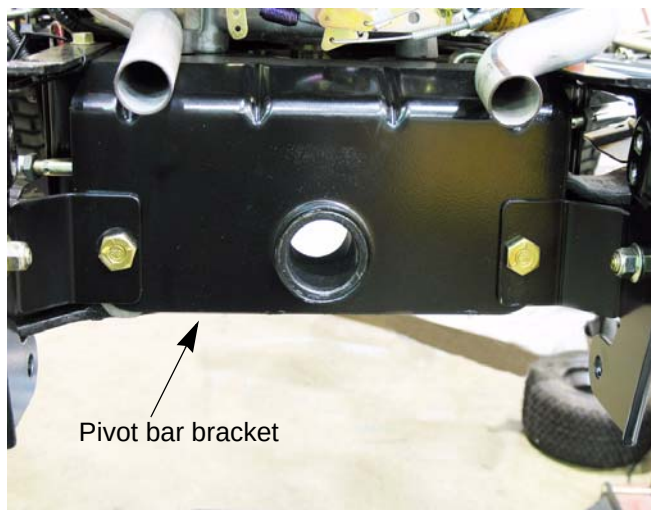

Figure 6.34
5. Remove the pivot bar shoulder bolts. See Figure 6.34.